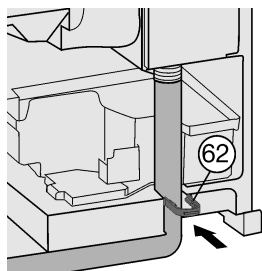

Fig. 14*
- Fit the locking clip *Fig. 14 (62).**